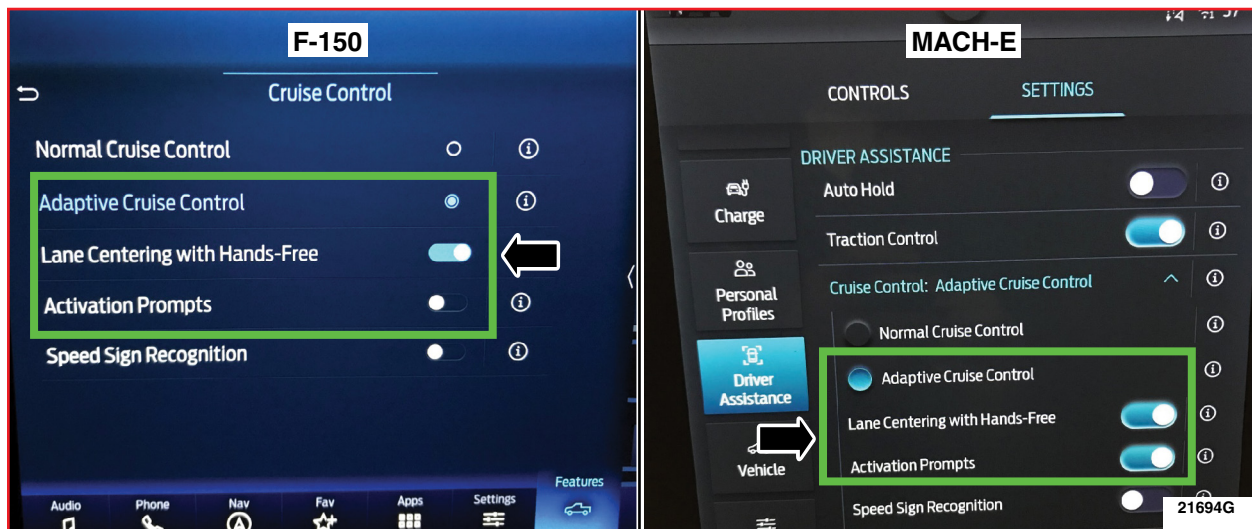

FIGURE 6
28. Turn ON: **Adaptive Cruise Control, Lane Centering with Hands-Free, and Activation Prompts.** See Figure 6.
- Figure 6 example shows an expiration date of March 14, 2022 which is past.